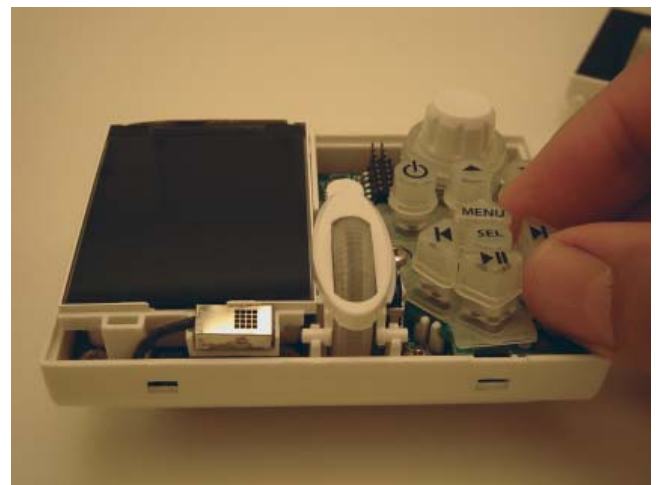

Figure 16
3. With the faceplate fully removed, the hard button keycaps can be changed. Carefully pinch the top of the keycap and slowly pull it straight up and off the rubber membrane as shown in **Figure 16**. Try not to pull the membrane off the green circuit board. If the membrane does come loose, be sure to replace it to its normal position, seated flat on the green circuit board. If the membrane is not properly seated, the keycaps will not fit properly through the openings in the faceplate and the keypad will not function.